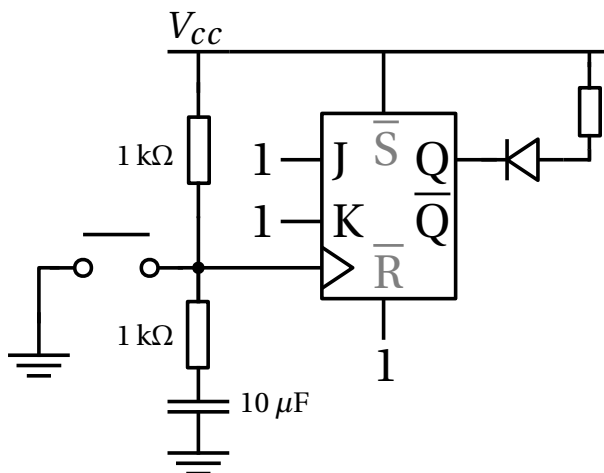

Figure 3:
- (e) The negative push-button signal-edge can be smoothed-out by adding another $1\ \text{k}\Omega$ resistor, this time to the discharge path of the capacitor (separating the pull-up resistor and the capacitor). Sketch this new circuit (with charge/discharge paths). Wire-up this configuration and verify the behavior (sketch the oscilloscope output). Is signal bouncing and noise completely removed? See Fig. 3.